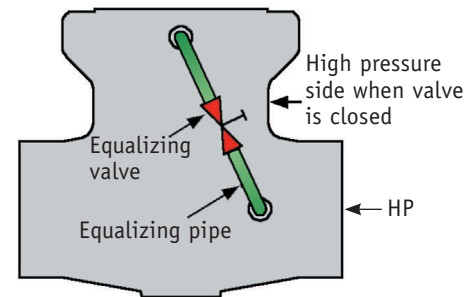

Figure 10
- A pressure equalizing pipe, drilled and tapped from the center cavity to the valve’s “pressure side” bore (Figure 10). When a bypass valve is included, bi-directional sealing is maintained. Just remember that when the bypass valve is closed, center cavity pressure is not being relieved.